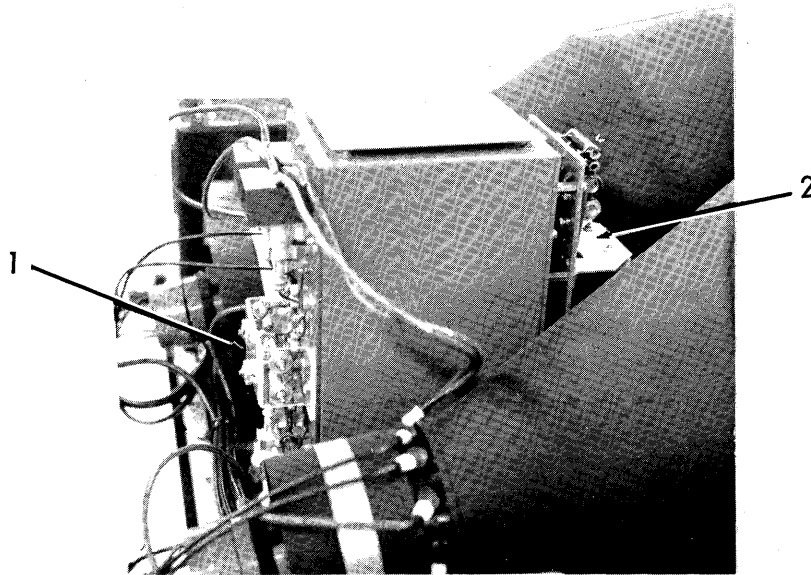

Figure 4-2. Deflection Amplifier
- (b) Adjust the X trimmer and pot. located on the front of the deflection amplifier (2 of figure 4-2) to align the H's in the lower rows directly under the H's in the upper rows.
- (c) Adjust the Y deflection trimmer and pot. located on the rear of the deflection amplifier (1 of figure 4-2) so that the crossbars of the H's form a straight line left to right.